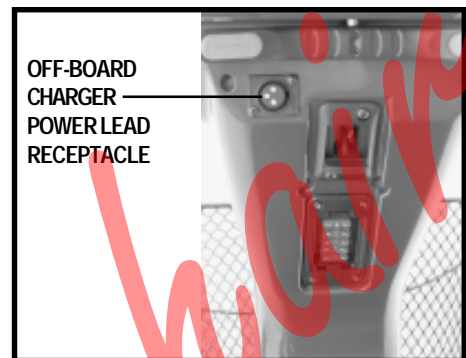

Figure 12. Off-Board Charger Power Lead Receptacle
4. Plug the 3-pin charger lead from the off-board charger into the off-board charger power lead receptacle on the scooter and the other end of the lead into a standard wall outlet. See figure 12.